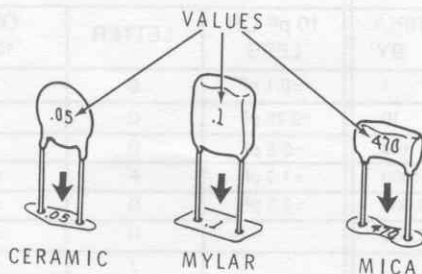

Figure 2
- When you install ceramic, Mylar, or mica capacitors, always position each capacitor so you can read the value on the capacitor in the same direction as you can read the printing on the circuit board (see Figure 2).